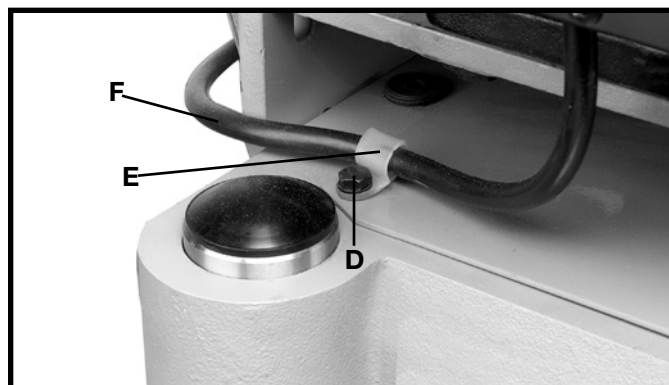

Fig. 17
2. Fasten the left corner of the cover to the top of the planer using the remaining M6x16mm screw (D) Fig. 17, and cord clamp (E). **NOTE:** The motor cord (F) must be inserted and positioned into the cord clamp as shown.